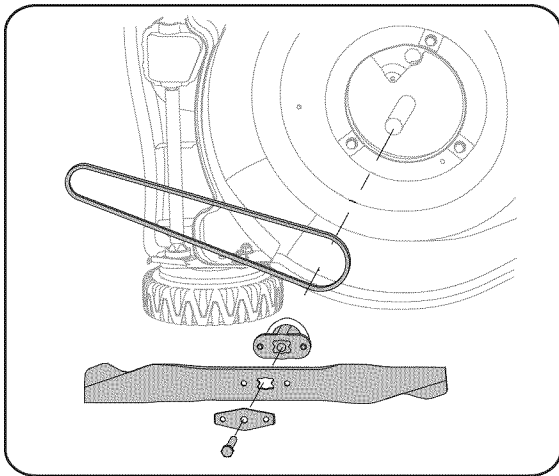

Figure 11
1. Remove the bolt and the blade bell support which hold the blade and the blade adapter to the engine crankshaft. See Figure 11.
7. Install the blade adapter on the crankshaft with the "star" away from the engine. See Figure 11. Place the blade with the side marked "bottom" (or with part number) facing away from the adapter. Align the blade bell support over the blade with the tabs in the holes of the blade and insert the hex bolt.